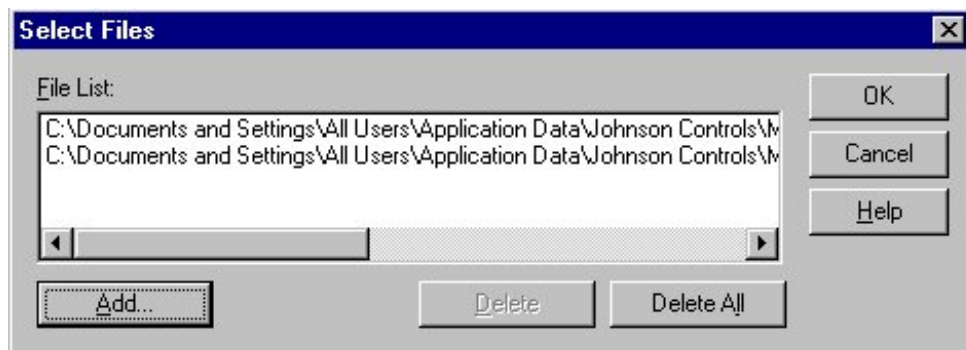

Figure G-3: Select Files Dialog Box
3. Click the  button to add desired .gdf files. The Select Files Dialog Box appears (Figure G-3).